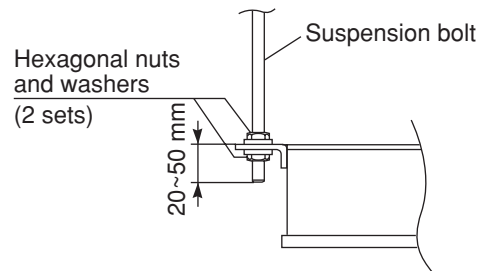

Fig. 3-101
- (3) Suspend and fix the indoor unit using the 2 hexagonal nuts (field supply) and special washers (supplied with the unit) as shown in Fig. 3-101.